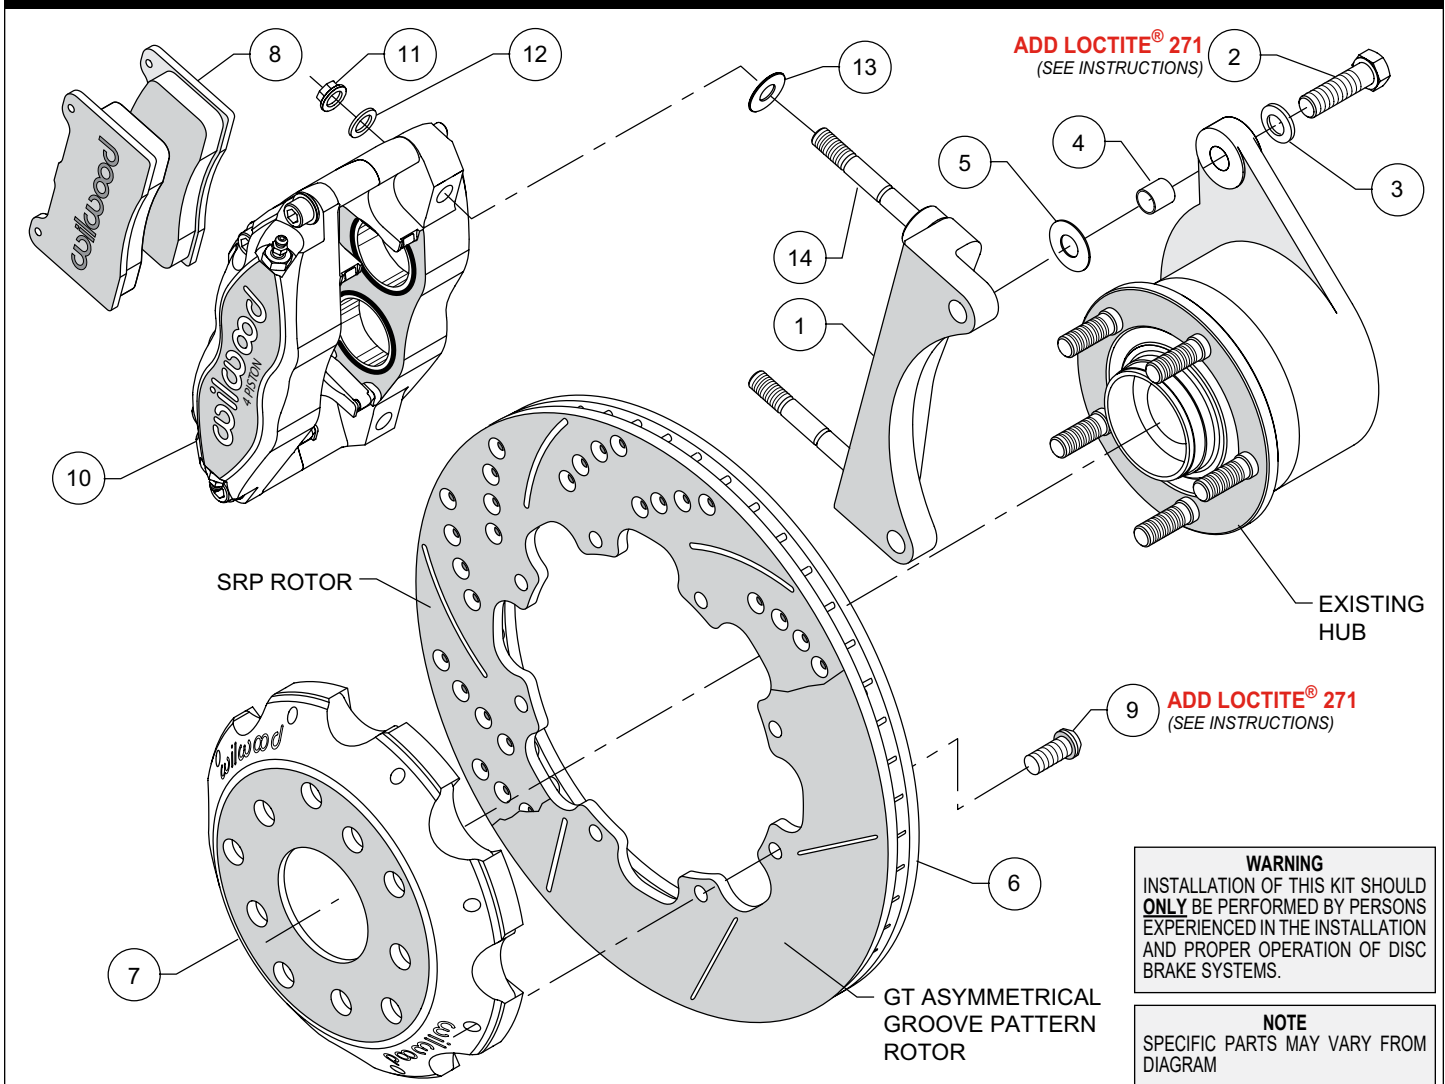

Figure 1. Typical Installation Configuration
- Insert one sleeve (4) each into the holes on the top and bottom spindle "ears" where the OEM caliper bracket was removed. The caliper mounting bracket assembly (1) should be installed first with clean, dry threads on the mounting bolts. Install the bracket from the front side of the spindle by sliding bolts (2) through washer (3) and sleeve (4). Place .030 thick shim (5) between the bracket and the front side of the spindle, Figure 1. The bracket must tighten squarely against the side of the spindle body. Inspect for interference from casting irregularities, machining ridges, burrs, etc. Use one shim (5) between the spacer and spindle during initial trial fitting.
- With the larger I.D. side of the rotor (6) facing away from the hat (7), attach rotor (6) to hat (7) using bolts (9) as shown in Figure 1. Using an alternating sequence, remove bolts one at a time, apply red *Loctite*® 271 to the threads, and torque to 25 ft-lb.
- Install one shim (13) over each pre-installed stud (14) on the radial mount bracket (1). Slide the caliper (10) in place over the studs and rotors and install the washer (12) and lock nut (11) to hold the caliper in place. Snug the lock nuts (11). View the rotor (6) through the top opening of the caliper (10). The rotor (6) should be aligned in the center of the caliper (10). If not, adjust the caliper (10) by using .030" shims (5) placed between the bracket and the spindle to center the caliper. Always use the same amount of shims on both the top and bottom caliper mounting bolts (2).
- Remove the caliper quick-clip pad retainer from the caliper (10). Slide the brake pads (14) into place. They should install easily without interference. Check that the outside radius of the brake pad is aligned with the outside diameter radius of the rotor face. Add or subtract shims (13) between the caliper and mount bracket to gain the proper alignment. Reinstall the quick-clip pad retainer.
- Once all clearances have been checked, remove the wheel, caliper, hat, and rotor from the spindle and hub. Secure the caliper mounting bracket (1) to the spindle using red *Loctite*® 271. Torque the bolts to 47 ft-lbs. Reinstall the hat and rotor assembly and again use three lug nuts to hold it in place. Reinstall the caliper and torque the caliper nuts (11) to 30 ft-lb.